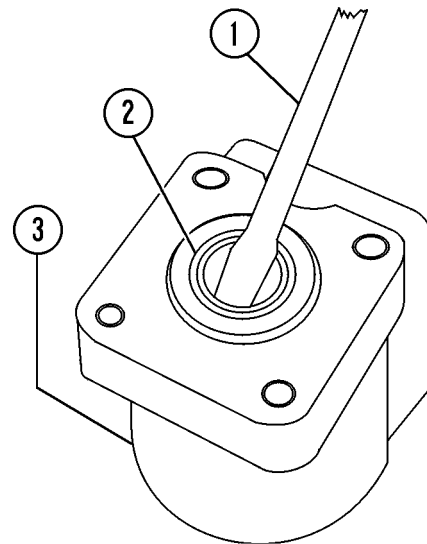

FIGURE 5-6. DUST SEAL REMOVAL
10. Remove O-ring (5), kin ring (6) and bearing assembly (7).
11. Remove ring (8) and pin (9) and carefully push the inner spool out of the outer sleeve.
12. Press neutral position springs (10) out of their slot in the inner spool.
13. Remove dust seal (2, Figure 5-6) using a screwdriver. Be careful not to scratch or damage the dust seal bore.